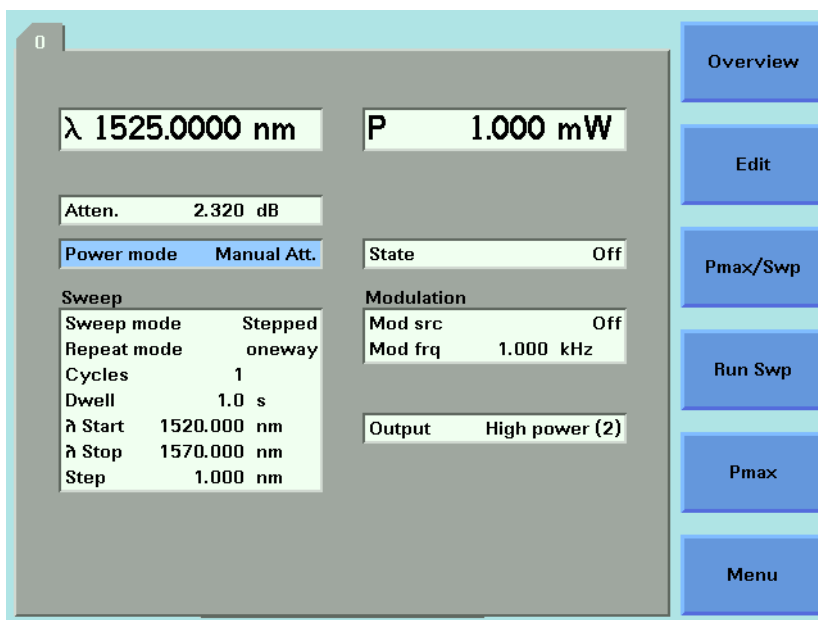

Figure 65 Setting Attenuation
- b Move to <Manual Att.> and press Enter. The attenuation parameter, [Atten.], appears, see Figure 65.